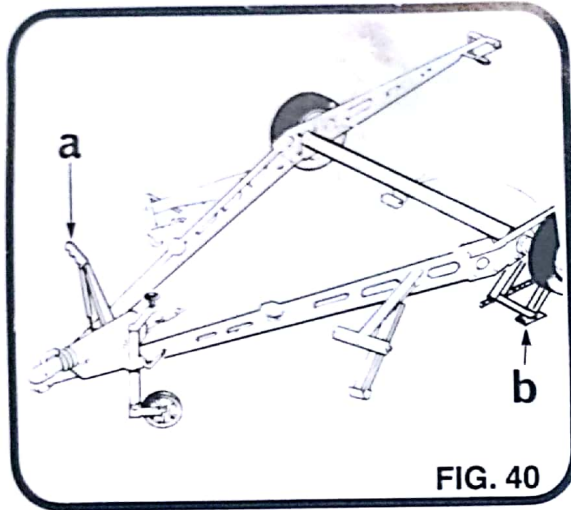

FIG. 40
2.15 Check and Adjust the Axial Play of a Wheel Hub Bearing (Figs. 40 and 41)